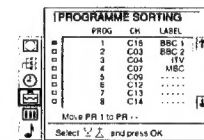

Fig. 16
- 5 Using  $\Delta$  + or  $\nabla$  - select the programme position to which you want to move the channel of the programme position selected in step 4 and press OK. Now the programme positions have been sorted. (See Fig. 16)